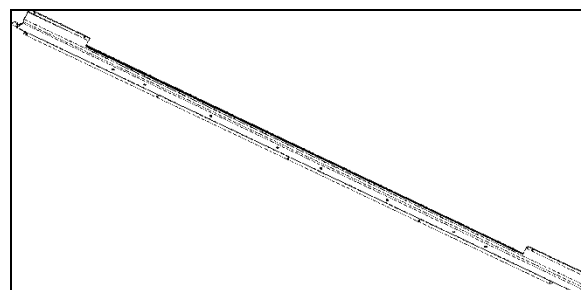

FIGURE 64: LED INDIRECT LIGHTING IN PARCEL RACK
2. Using a Phillips head screwdriver, unscrew and remove the existing LED strip (FIGURE 64).